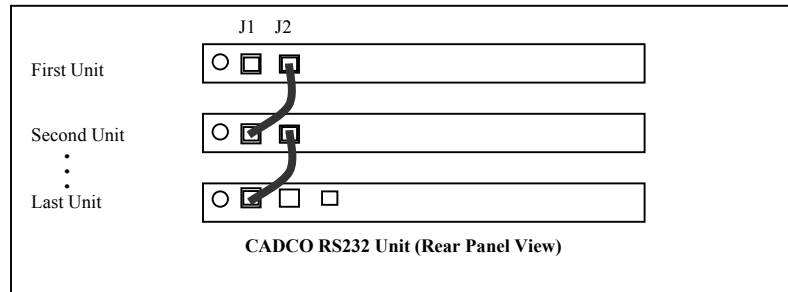

Figure 2-2
2. Connect together, in “daisy-chain” fashion, all units (up to 255) which will be communicating *via* the RS-232 option. Link these units with RJ-11-6 interface cables wired in straight-through fashion as shown below in Figure 2-2. Connections should go from J2 on one unit to J1 on the next. Unit ID, at this point, is not relevant. When all units are linked together, the first unit in the chain will have an open J1; the last unit will have an open J2.